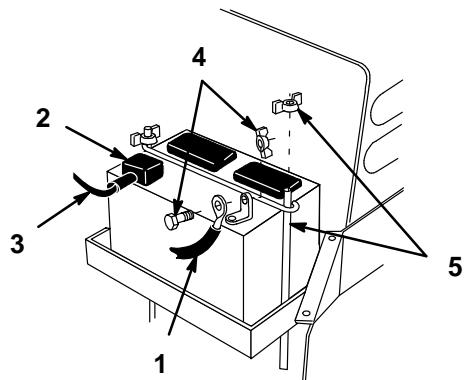

Figure 35
4. Disconnect the negative (black) ground cable from the battery post (Fig. 35).
5. Lift the rubber cover up on the positive (red) cable. Disconnect the positive (red) cable from the battery post (Fig. 35).
6. Remove the battery hold down rods (Fig. 35).
9. Using the bolt and wing nut, connect the positive (red) cable to the positive (+) battery post (Fig. 35). Slide the rubber cover over the battery post.
10. Using the bolt and wing nut, connect the negative (black) cable to the negative (-) battery post (Fig. 35).